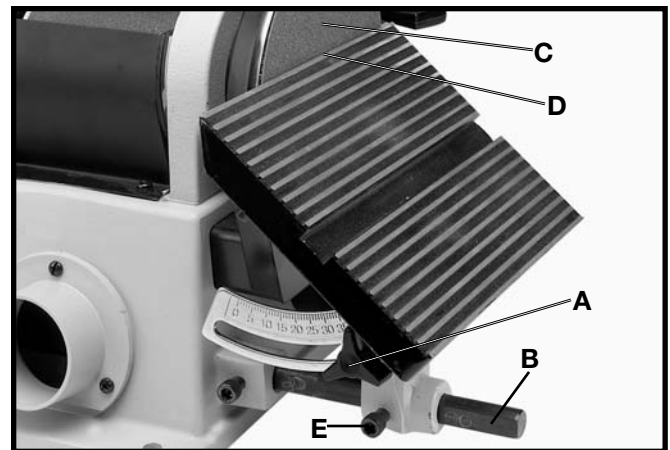

Fig. 30
1. The table can be tilted up to 45 degrees to the right by loosening the table lock knob (A) Fig. 30, tilting the table to the desired angle, and tightening table lock knob (A).
2. **⚠ WARNING: AFTER TILTING, THE TABLE ASSEMBLY MUST BE REPOSITIONED ON THE SUPPORT ROD (B) FIG. 30, TO PROVIDE A MAXIMUM OF 1/16 INCH DISTANCE BETWEEN THE SANDING DISC (C), AND THE EDGE (D) OF THE TABLE, TO AVOID TRAPPING THE WORK OR FINGERS BETWEEN THE DISC AND TABLE. TO REPOSITION THE TABLE ASSEMBLY, LOOSEN SCREW (E), MOVE TABLE ASSEMBLY ON ROD (B), AND TIGHTEN SCREW (E).**